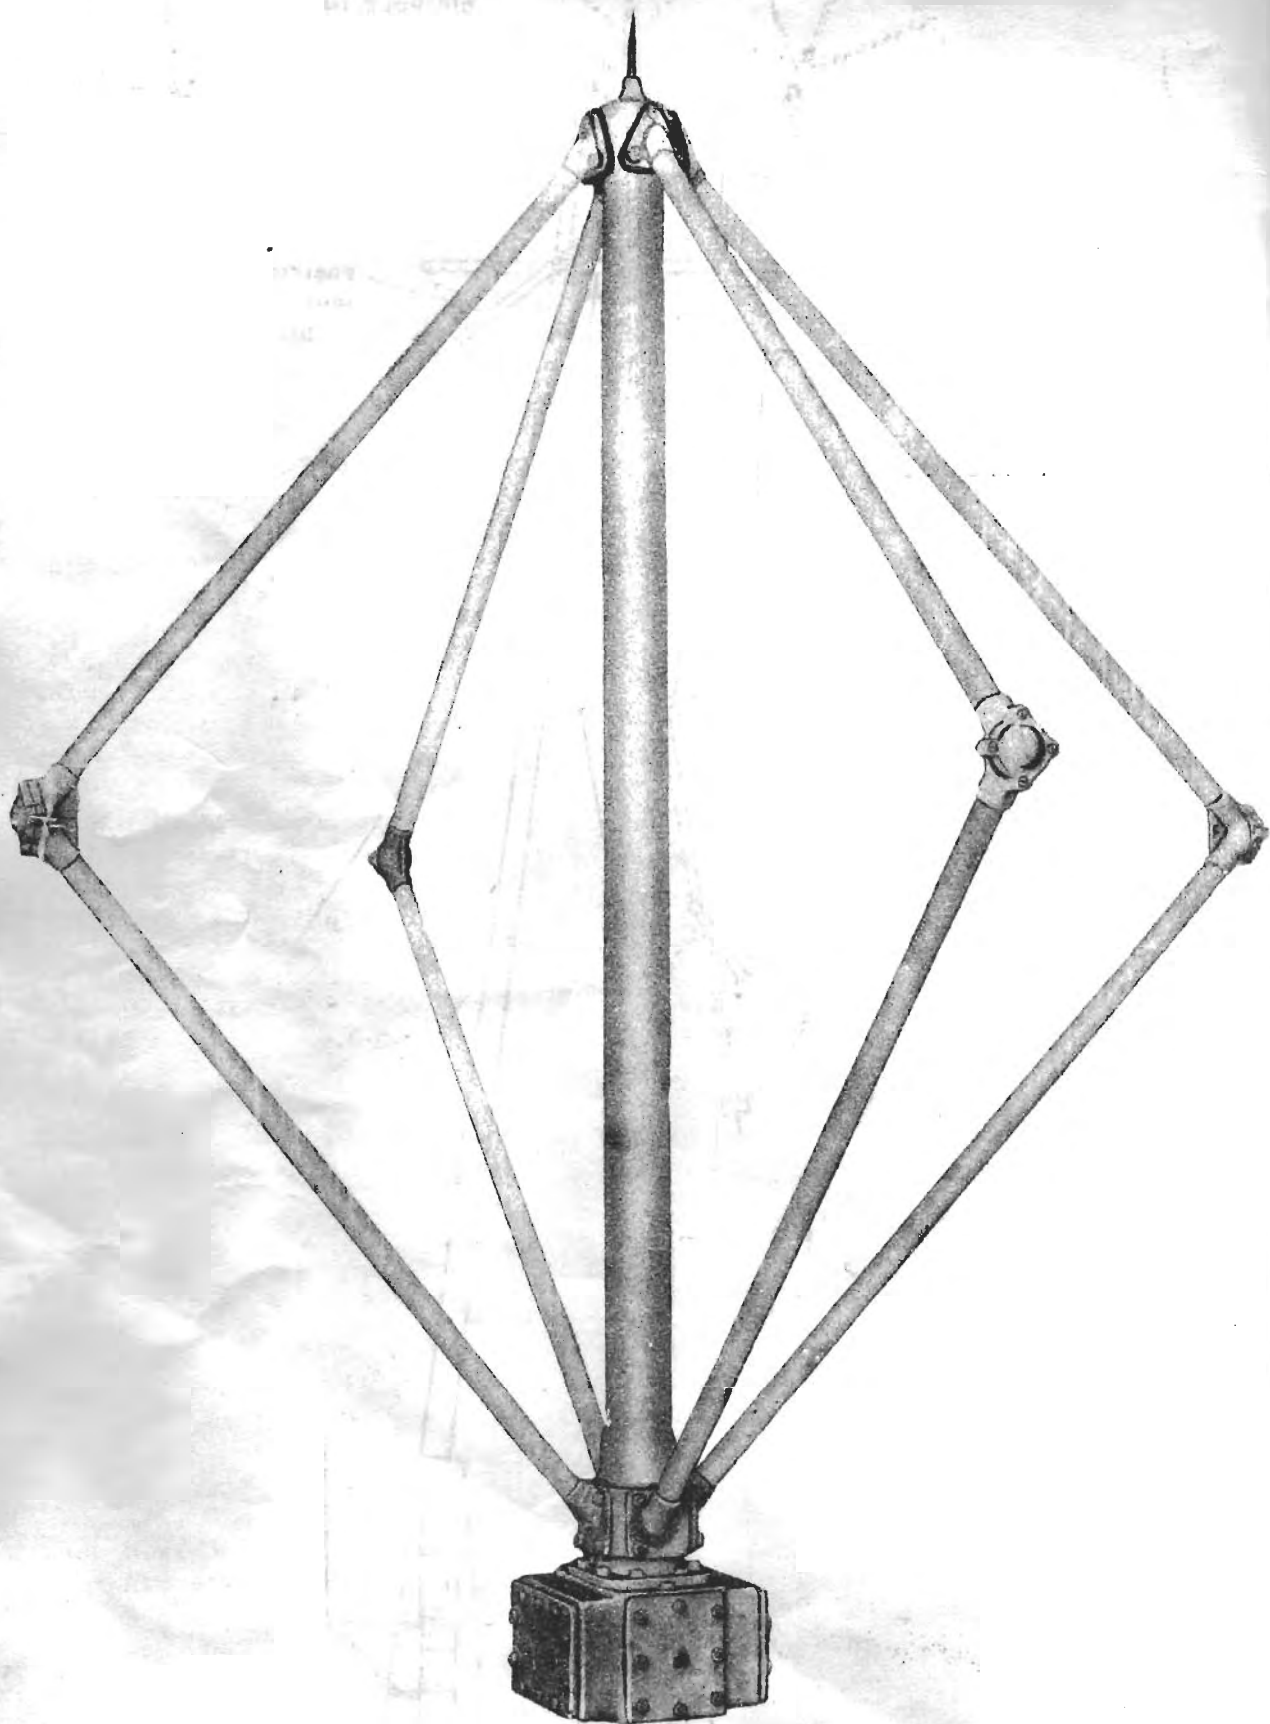

FIG. 3.
1. FRAME COIL S16. (See Fig. 3). The loops of the frame coil S16 are three feet square and each consists of two turns of rubber insulated cable 12/.01 inch conductor wound on loaded ebonite spacers inside a one-inch steel tube framework. The four tubes enclosing the frame coil windings are interrupted near the top by moulded ebonite insulators. This arrangement prevents induced currents from circulating round the metal frame. **THE INSULATORS MUST BE KEPT CLEAN AND ON NO ACCOUNT PAINTED OVER.**